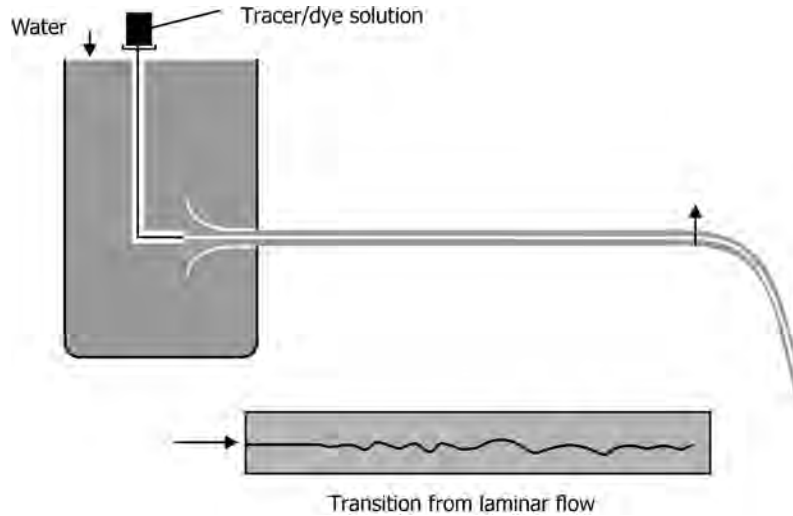

FIGURE 2.3 Reynolds number demonstration experiment.
- A Reynolds number experiment (Figure 2.3) is carried out in pipe flows with different diameter pipes, smooth and rough. Flow is gradually varied, visually observing flow streamlines by injecting a dye or ink